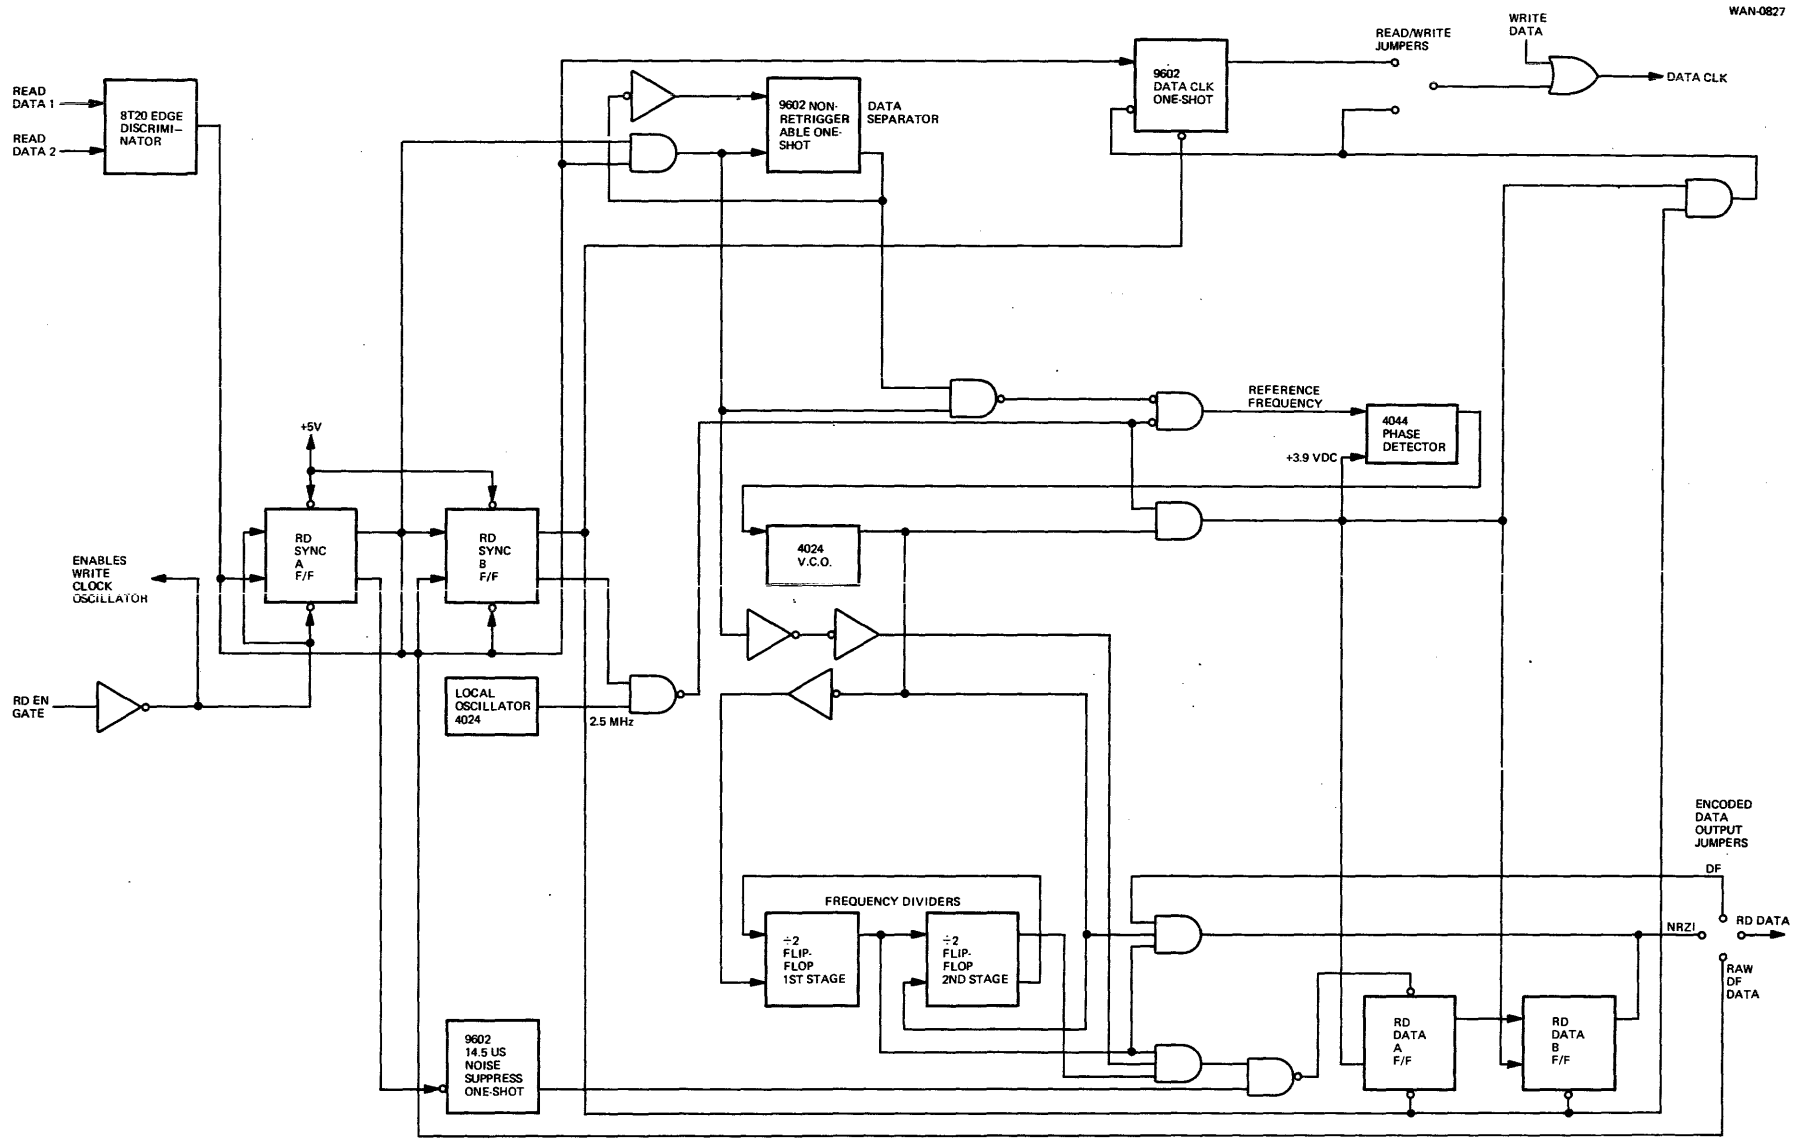
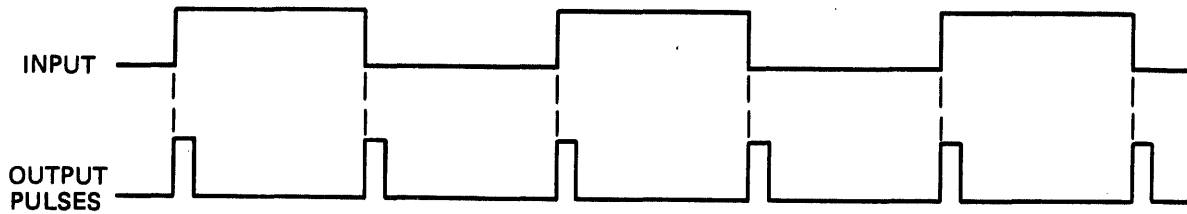

Figure 4-35. Block Diagram of Variable Frequency Oscillator (VFO)
Figure 4-36. Output of Double-Edge Discriminator
4.5.10.1 Introduction. The Data Interface board supplies double frequency-encoded Write data from the external Controller to the DEB. Other signals pass through this board coming from, or going to, the Controller. In addition, the conversion of NRZ-coded data to double frequency-encoded format for writing on the disc, or from double frequency-encoded data back to the original NRZ format after it is read from the disc is accomplished on this board. This function is performed by the Variable Frequency Oscillator (VFO); the block diagram of which is shown in Figure 4-35.
4.5.10.2 Edge Discriminator Operation. At the point where the Read data first enters the DIB, it is essentially a square-wave input. The first stage of the bidirectional one-shot (shown as the edge discriminator in figure 4-35) is a differential amplifier which is used as a limiter. The second portion is used to form pulses on each edge of the input pulse as shown in Figure 4-36. Thus, a pulse is generated for each flux reversal that was recorded on the disc during a previous Write operation. In effect, the output from the edge discriminator is representative of the double frequency-encoded data written on the disc. The first clock pulse received from the edge discriminator after the first gating flip-flop, RD SYNC A, is enabled by the internal RD EN GATE signal. The second clock pulse then sets the second gating flip-flop RD SYNC B. The width of the output pulses from the edge discriminator is 150 to 160 nanoseconds for a 1500 rpm Disc Drive, 100 to 110 nanoseconds for a 2400 rpm Disc Drive.